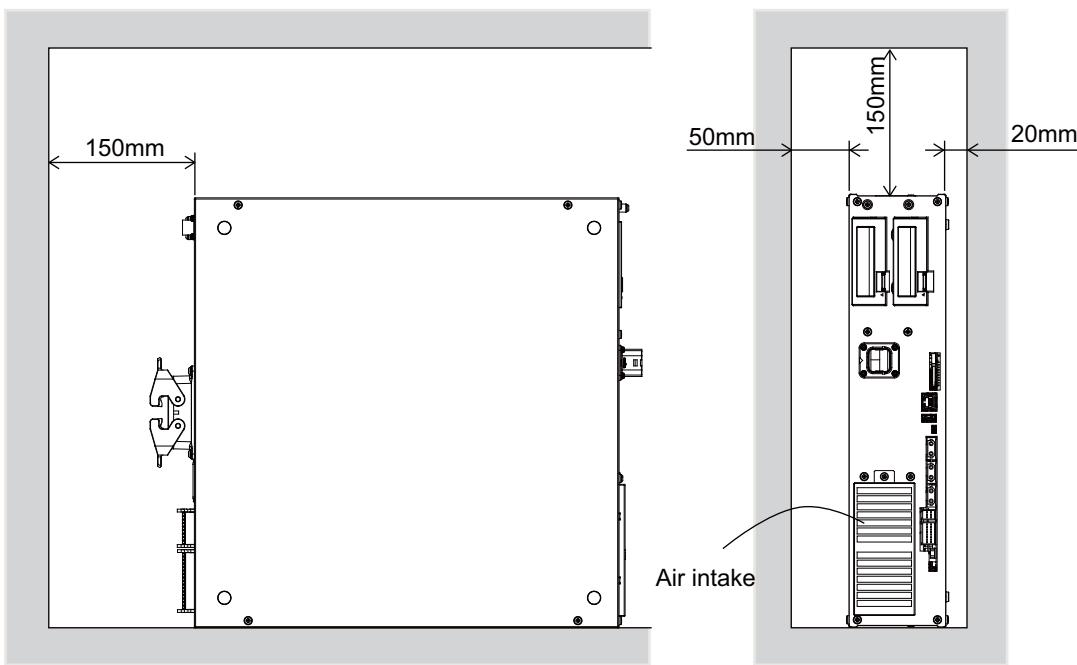

Fig.3-3: Installation dimensions
**⚠ CAUTION** When installing the controller vertically, ensure that the air intake is at the bottom as illustrated in Fig. 3-3.